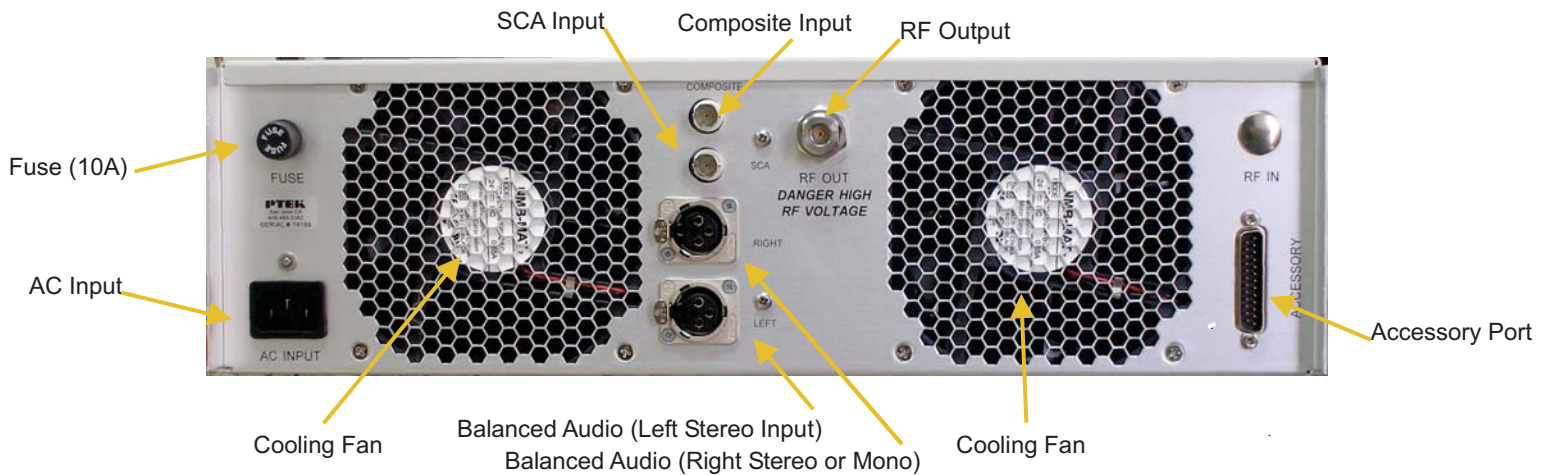

Figure 3-1. FM500ES Rear-Panel Connectors
1. Connect the antenna or power amplifier input to the RF output connector on the rear panel of the FM500ES (see Figure 3-1 on page 3-2).